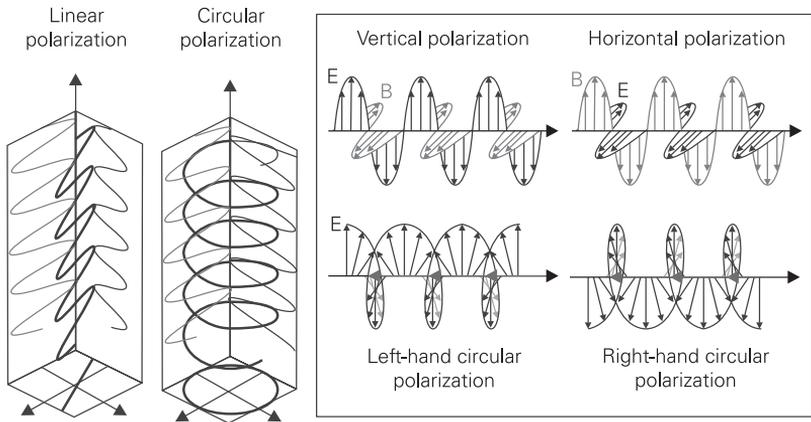

FIGURE 2.14 Polarization of radio wave
Electromagnetic waves, traveling in free space, have an electric field component (E) and a magnetic field component (H). These two components are perpendicular to each other, and both are also perpendicular to the direction of propagation of the wave. The orientation of the (E) vector is used to define the polarization of the wave. If the (E) field is orientated vertically, the wave is said to be vertically polarized. If it is orientated horizontally, the wave is said to be horizontally polarized. When the (E) field rotates with time, the wave is said to be circularly polarized. Polarization of the radiated wave plays an important role when you are concerned with the coupling between two antennas. Figure 2-14 shows polarization of a radio wave.